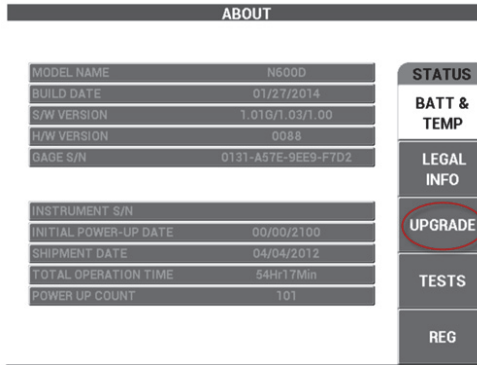

Figure 6-9 The UPGRADE menu
4. Press the C key to select **UPGRADE** (see Figure 6-9 on page 309).